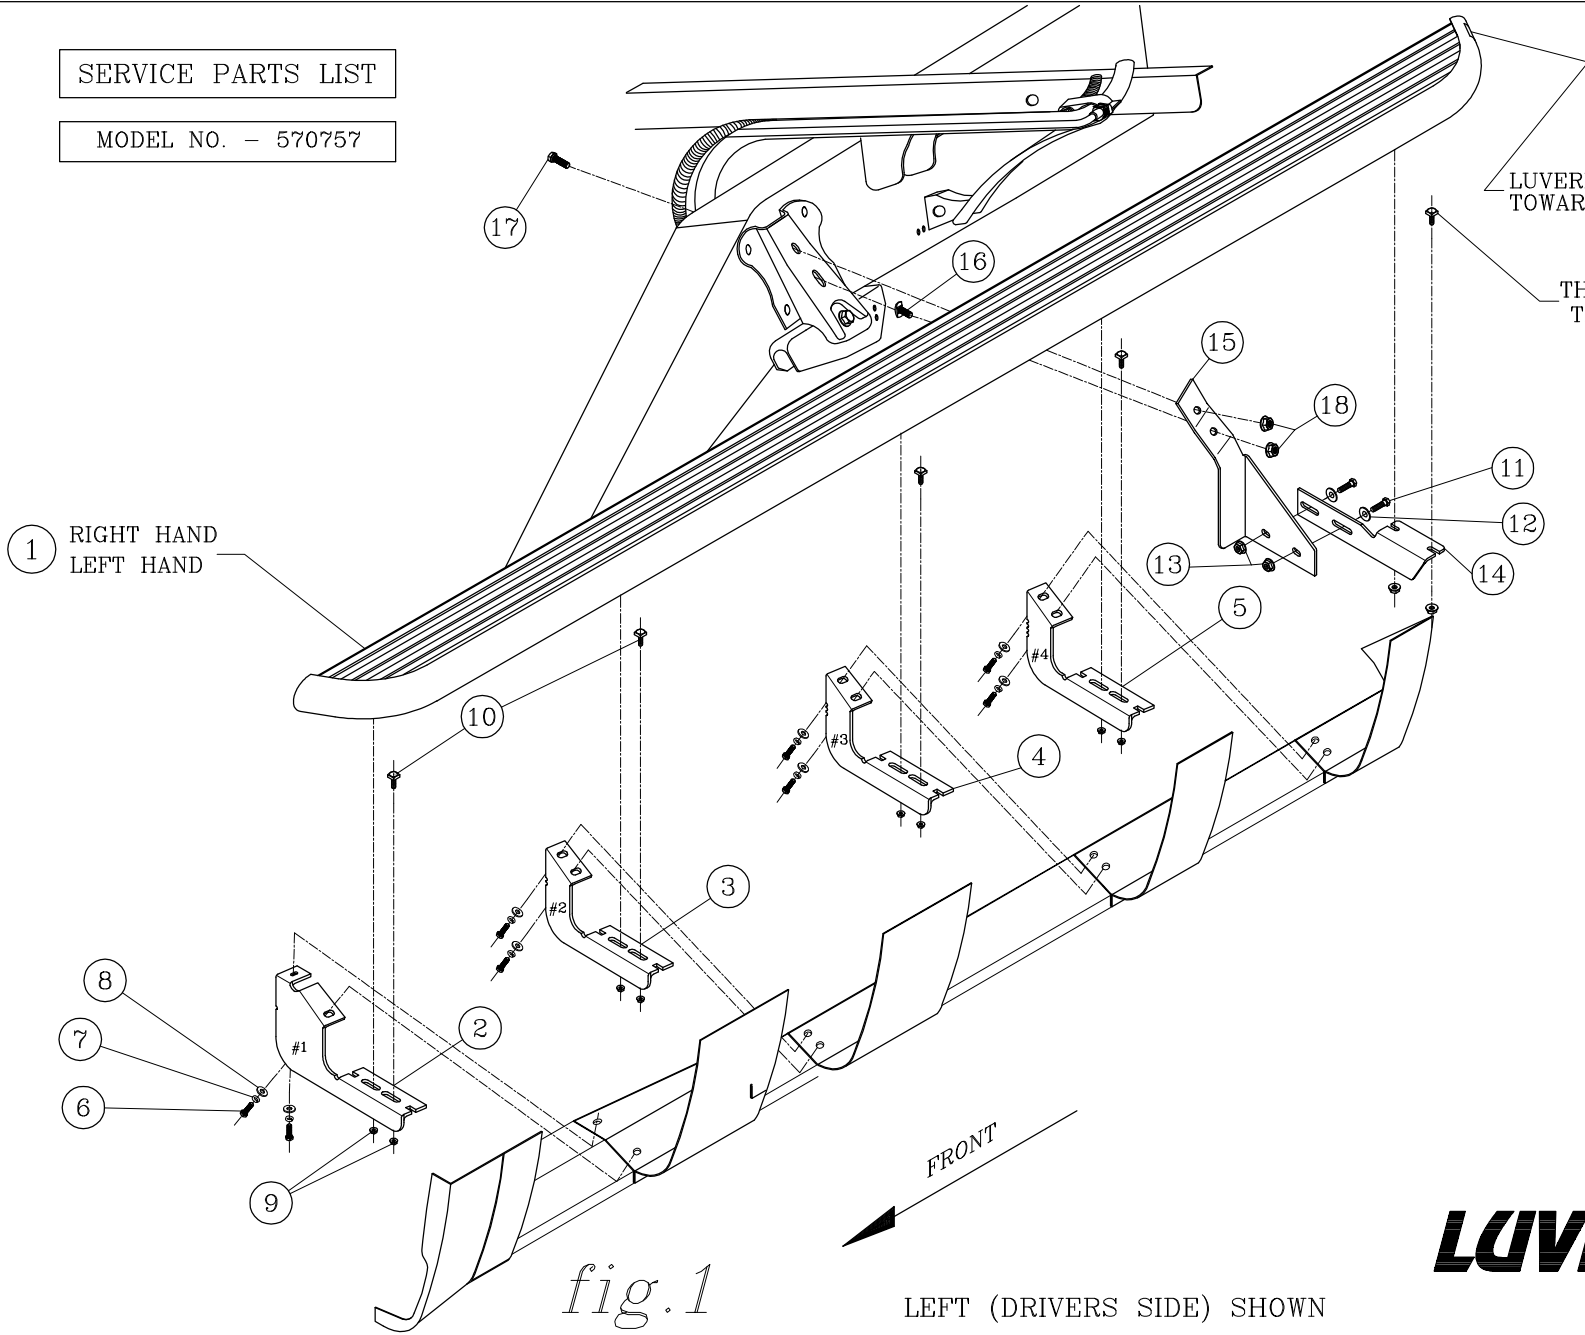

fig. 1
3. BEFORE ATTACHING THE O-MEGA STEPS TO THE BRACKETS, PLACE THE STEP PADS (ITEM #2) ON TOP OF THE STEP PLATES. USE THE TABLE ON SHEET #2, AS A GUIDE TO POSITION THE STEP PAD FOR YOUR PARTICULAR VEHICLE. WHEN INSTALLING THE PADS ON THE STEPS, DRILL (5) 1/8" HOLE USING THE STEP PAD AS A GUIDE. ATTACH WITH (5) 8-18X1/2" TEK SCREWS (ITEM #6) PROVIDED. REPEAT FOR ALL STEP PADS. (**NOTE: DUE TO THE SHORTNESS OF SOME BOXES, MOUNT THE BOX STEP PAD FIRST, APPROXIMATELY 1/2" FROM THE END CAP AND THEN MOUNT THE MIDDLE STEP PAD ACCORDINGLY.**)
5. INSTALL THE END CAPS (ITEM #3) AS SHOWN IN *fig. 1*, TIGHTENING THE NUTS TO 5 LB FT.
2. ATTACH THE MOUNTING BRACKETS TO THE VEHICLE USING EXISTING MOUNTING HOLES ON THE INTERIOR WALL OF THE ROCKER PANEL. **(NOTE: THE BRACKETS MUST BE PLACE IN THE PROPER POSITION. THEY ARE IDENTIFIED WITH NOTCHES ON THE INBOARD EDGE. [1 NOTCH IS FOR #1 BRACKET, ETC.] #1 WILL BE AT THE FRONT OF THE VEHICLE. SEE FIG. 1).**